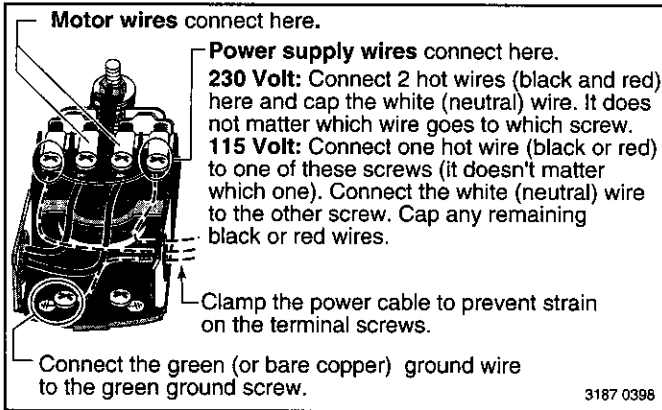

FIGURE 6 – Pressure switch wiring
4. Connect the power supply wires to the pressure switch as shown in Figure 6.